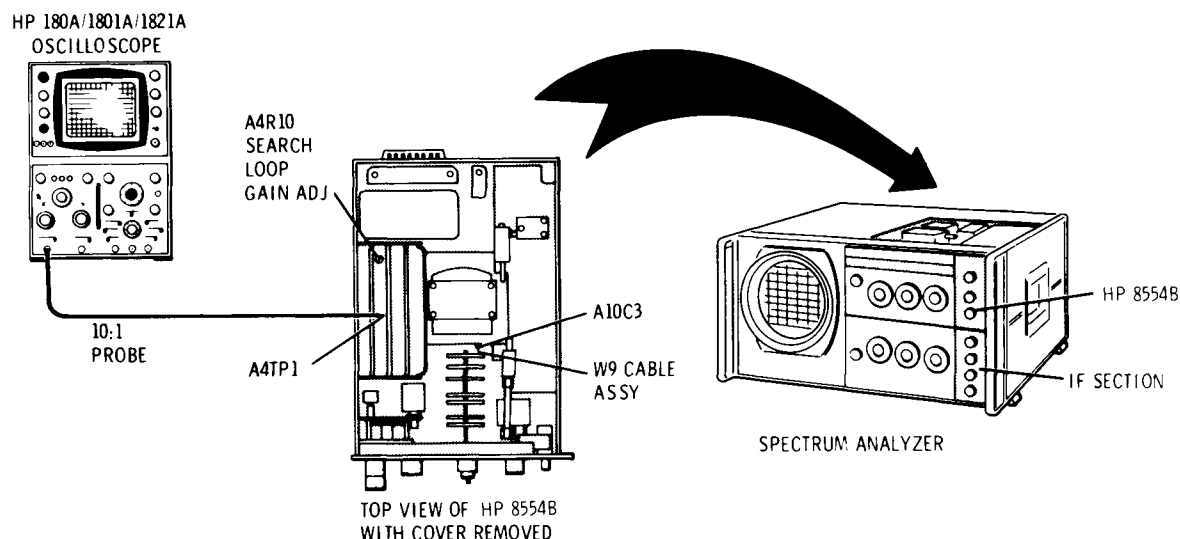

Figure 5-15. Search Oscillator Check and Adjustment Test Setup
3. With the test setup connected as shown in Figure 5-15, make the following control settings: